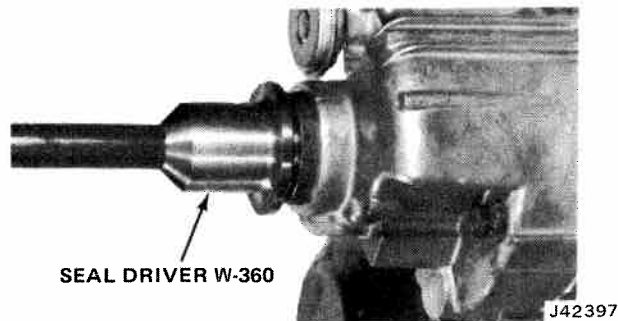

Fig. 8-46 Installing Rear Output Shaft Oil Seal
(12) Use Seal Drive W-360 to install rear output shaft oil seal (fig. 8-46).